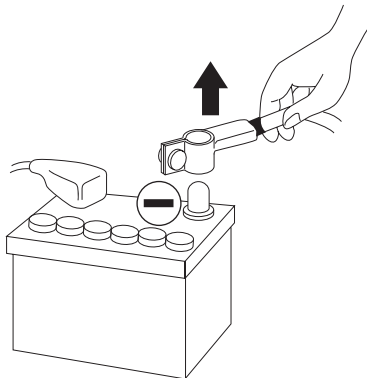

Fig. 1
- 2 - Disconnect the battery's negative wire before starting the installation. (**fig. 1**).